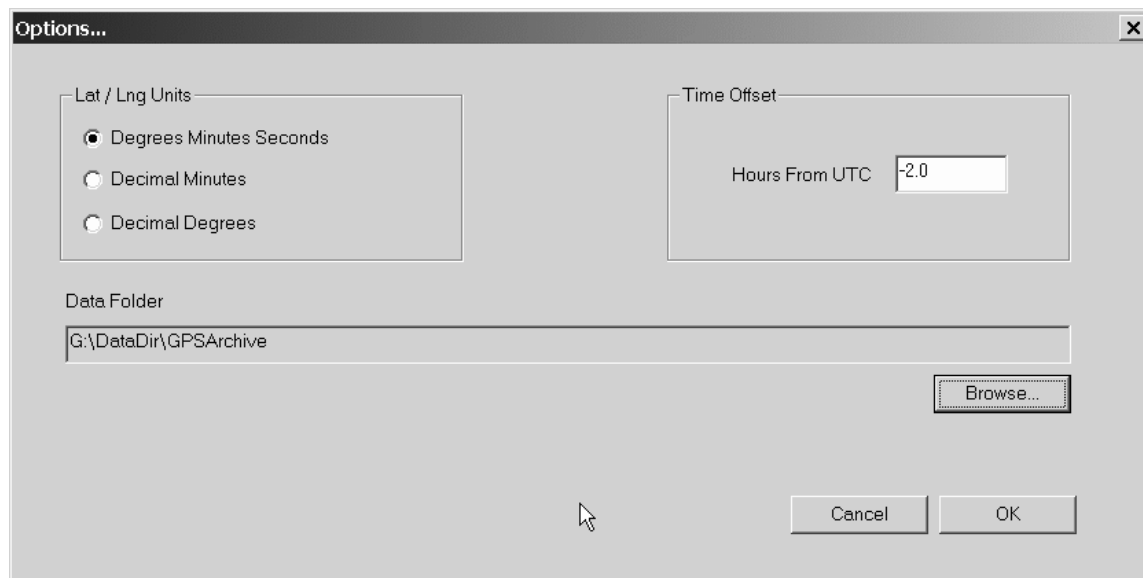

Fig. 14 – Options Window
9. Double-click the **Shortcut to Spraymaps** icon on the desktop. When the program starts for the first time a window will appear with the message **Failed to find data folder...** This is normal as the location for the jobs archive has not yet been defined in the Spraymaps program. Click on the **OK** button and the **Options** window will appear – see Fig. 14. Click on the **Browse** button and navigate to the **GPSArchive** folder created in step (6) above. Click on this folder to highlight it and then click on **OK** to close the **Browse for Folder** window. Click on the **OK** button to close the **Options** window. The main program window should open automatically.
2. Click on **File > Options** to open the **Options** window – see Fig. 14.